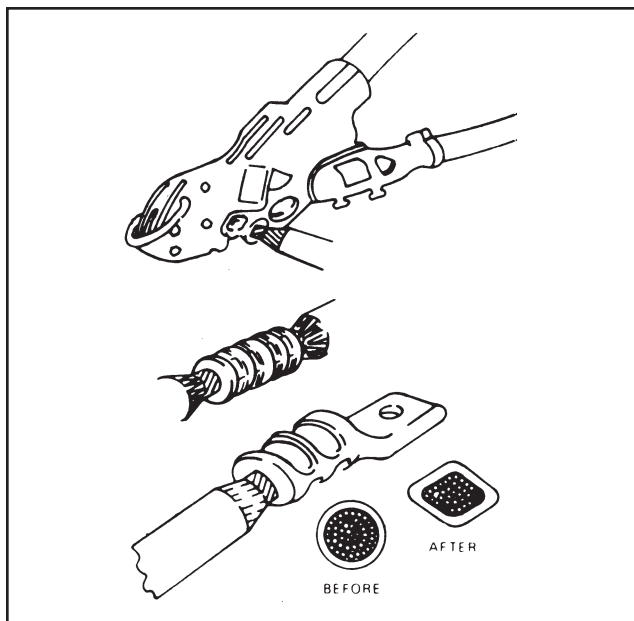

Figure 4
- c) Apply the crimping tool designed for that type of connector and crimp fully in accordance with the manufacturer's instructions (*Figure 4*). Be sure to select the correct crimping tool die for the size of the connector and the conductor being spliced.